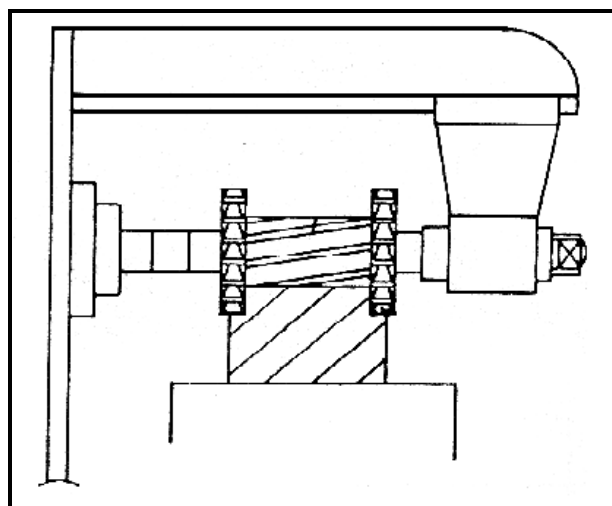

FIGURE 5.2
5.2 Identify the milling process shown in FIGURE 5.2 below.